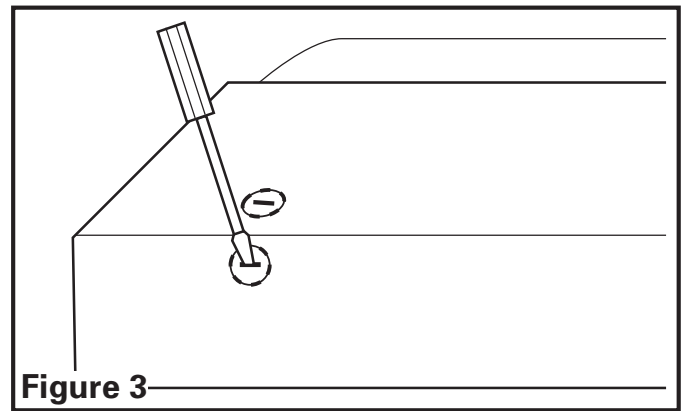

Figure 3
- Determine where the electrical service will enter the hood and remove the appropriate electrical knockout by inserting a screw driver into the slot and rocking back and forth until the knockout comes loose (**Figure 3**).